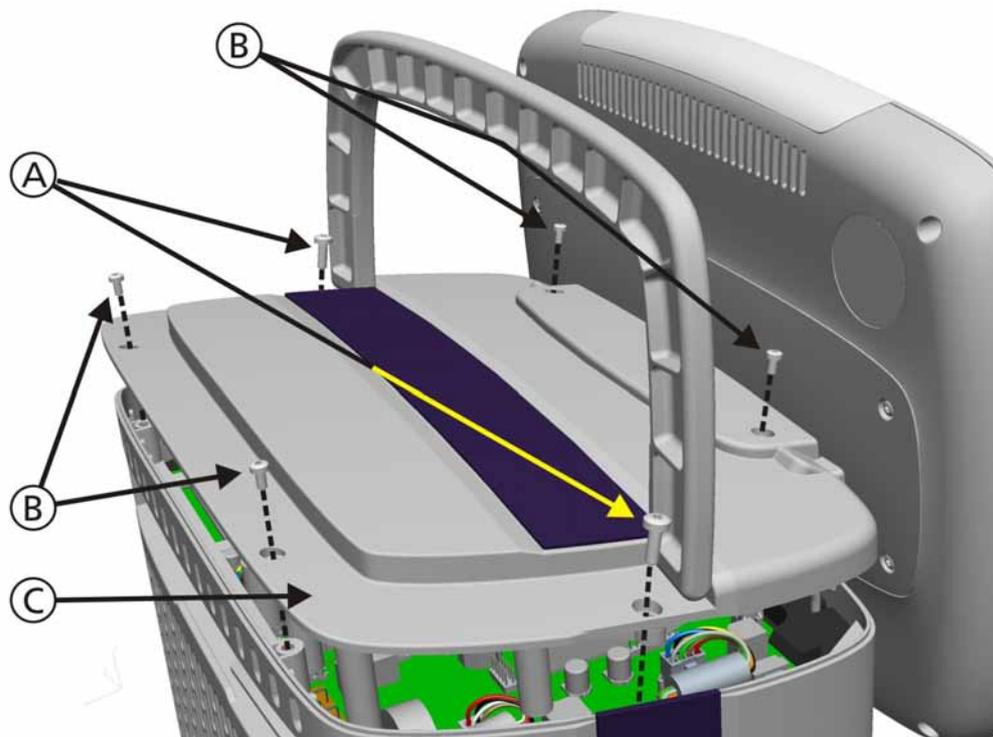

Figure 11-1. Ventilation Unit Top Cover Removal
- Figure 11-1, *Ventilation Unit Top Cover Removal*, on page 11-6